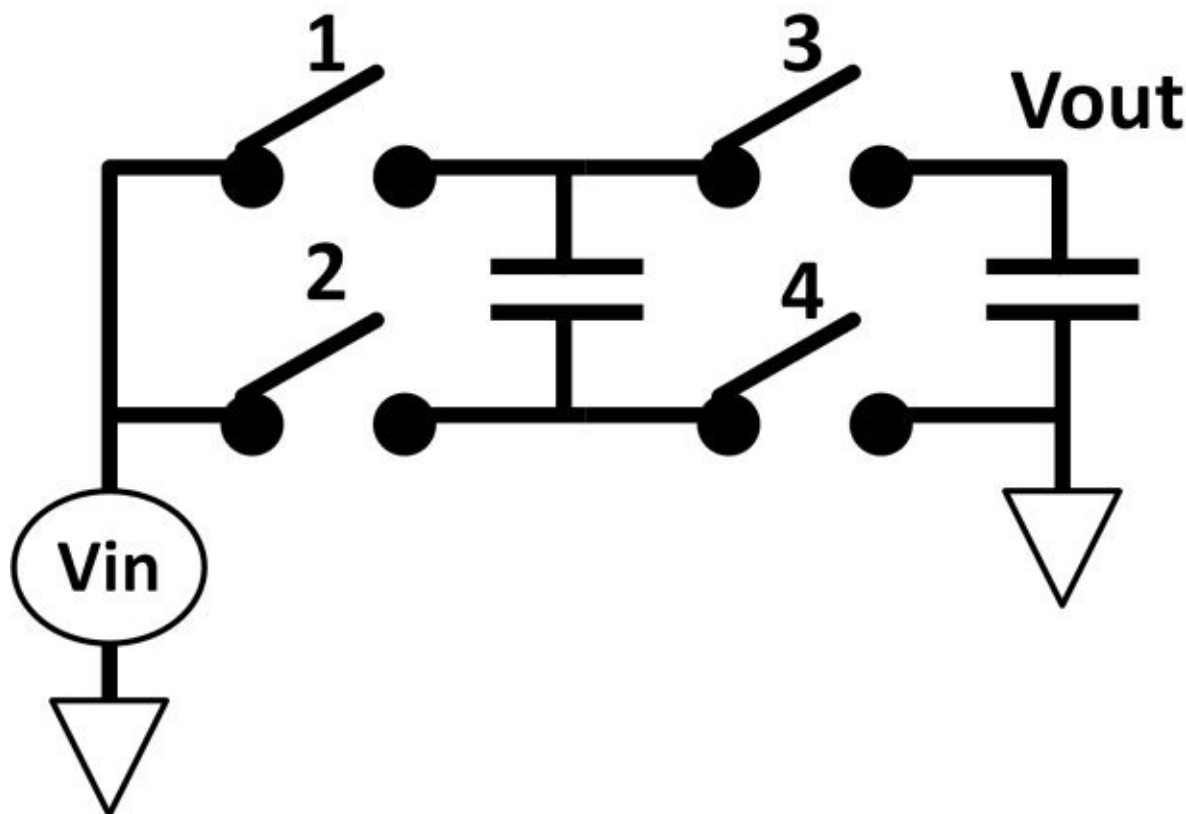

Figure 3.68:
10) Voltage can be easily doubled by using switches and capacitors. Figure 3.68 shows a